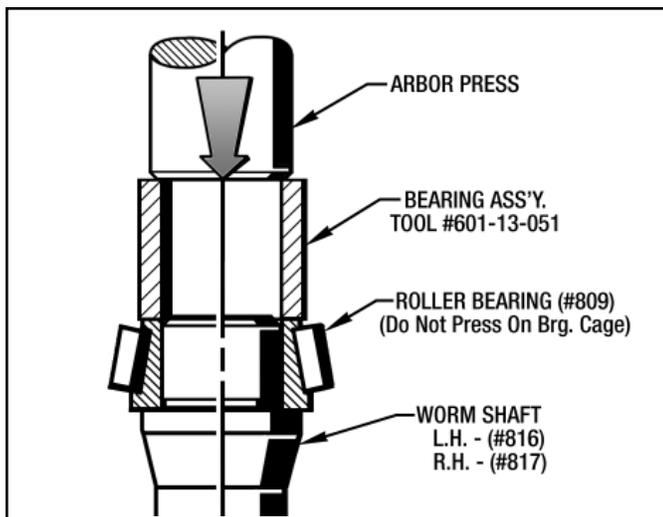

Figure 9.4 - Installing 2nd. Roller Bearing (#809)
3. Use Ass'y. Tool #601-13-051 and an Arbor Press to install the 2nd. Roller Bearing Cone (#809) onto the other end of the worm shaft as shown in *Figure 9.4* on the next page.